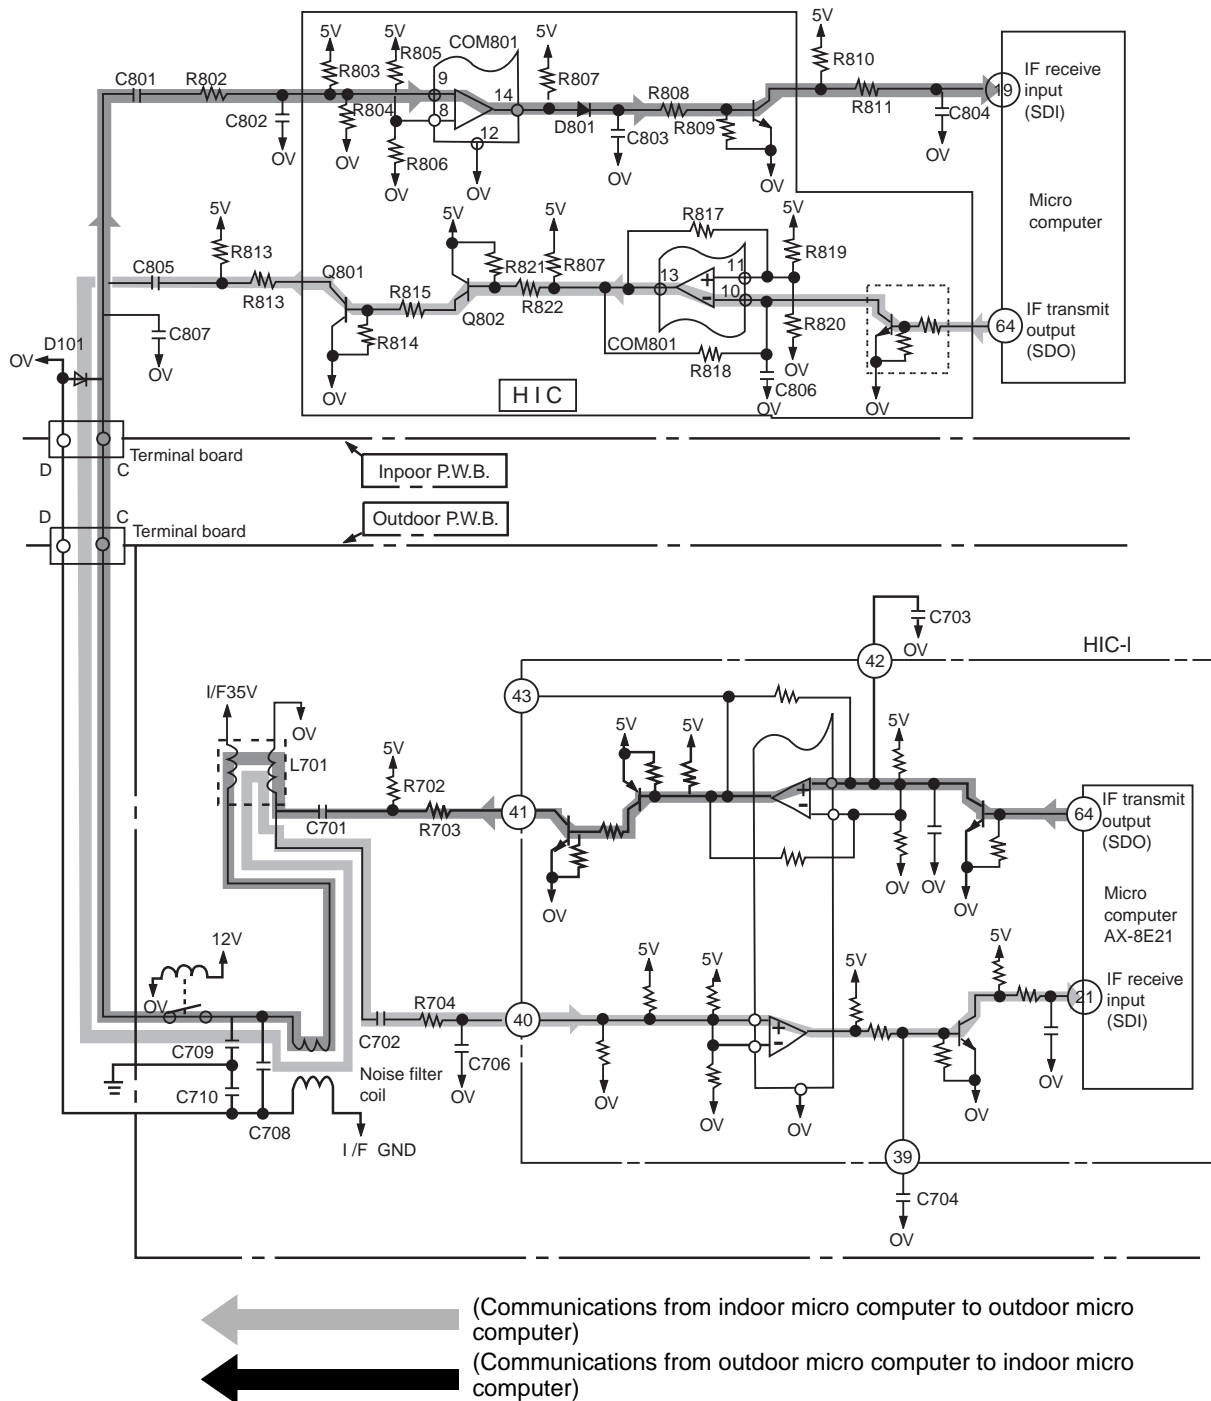

Fig. 2-1 Indoor/outdoor interface Circuit
- Fig. 2-1 shows the interface circuit used for the indoor and outdoor micro computers to communicate with each other.